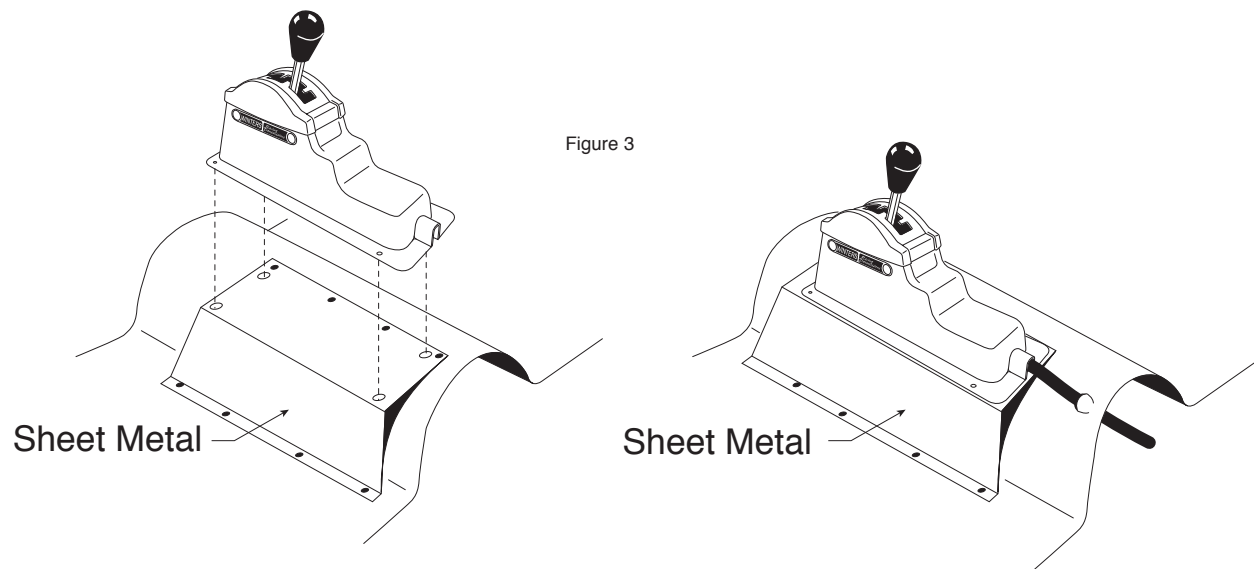

Figure 3
- E. Drill 5/8" diameter hole in floor for cable to exit. By inserting a drill or rod in hole and bending the sheet metal you can obtain a hole that will allow the cable to enter and exit more smoothly. After feeding the cable through, secure console in position using screws as shown in figure 3.